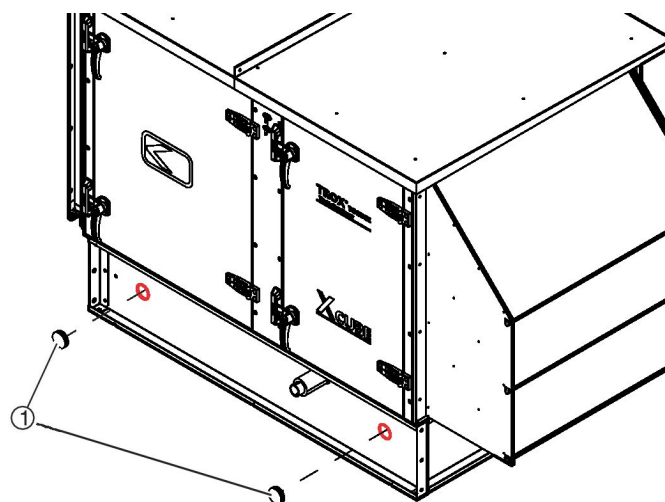

Fig. 21: Fitting plugs
6. ▶ Seal the transport openings in the base frame of the air handling unit with the plugs (Fig. 21 /1) provided.